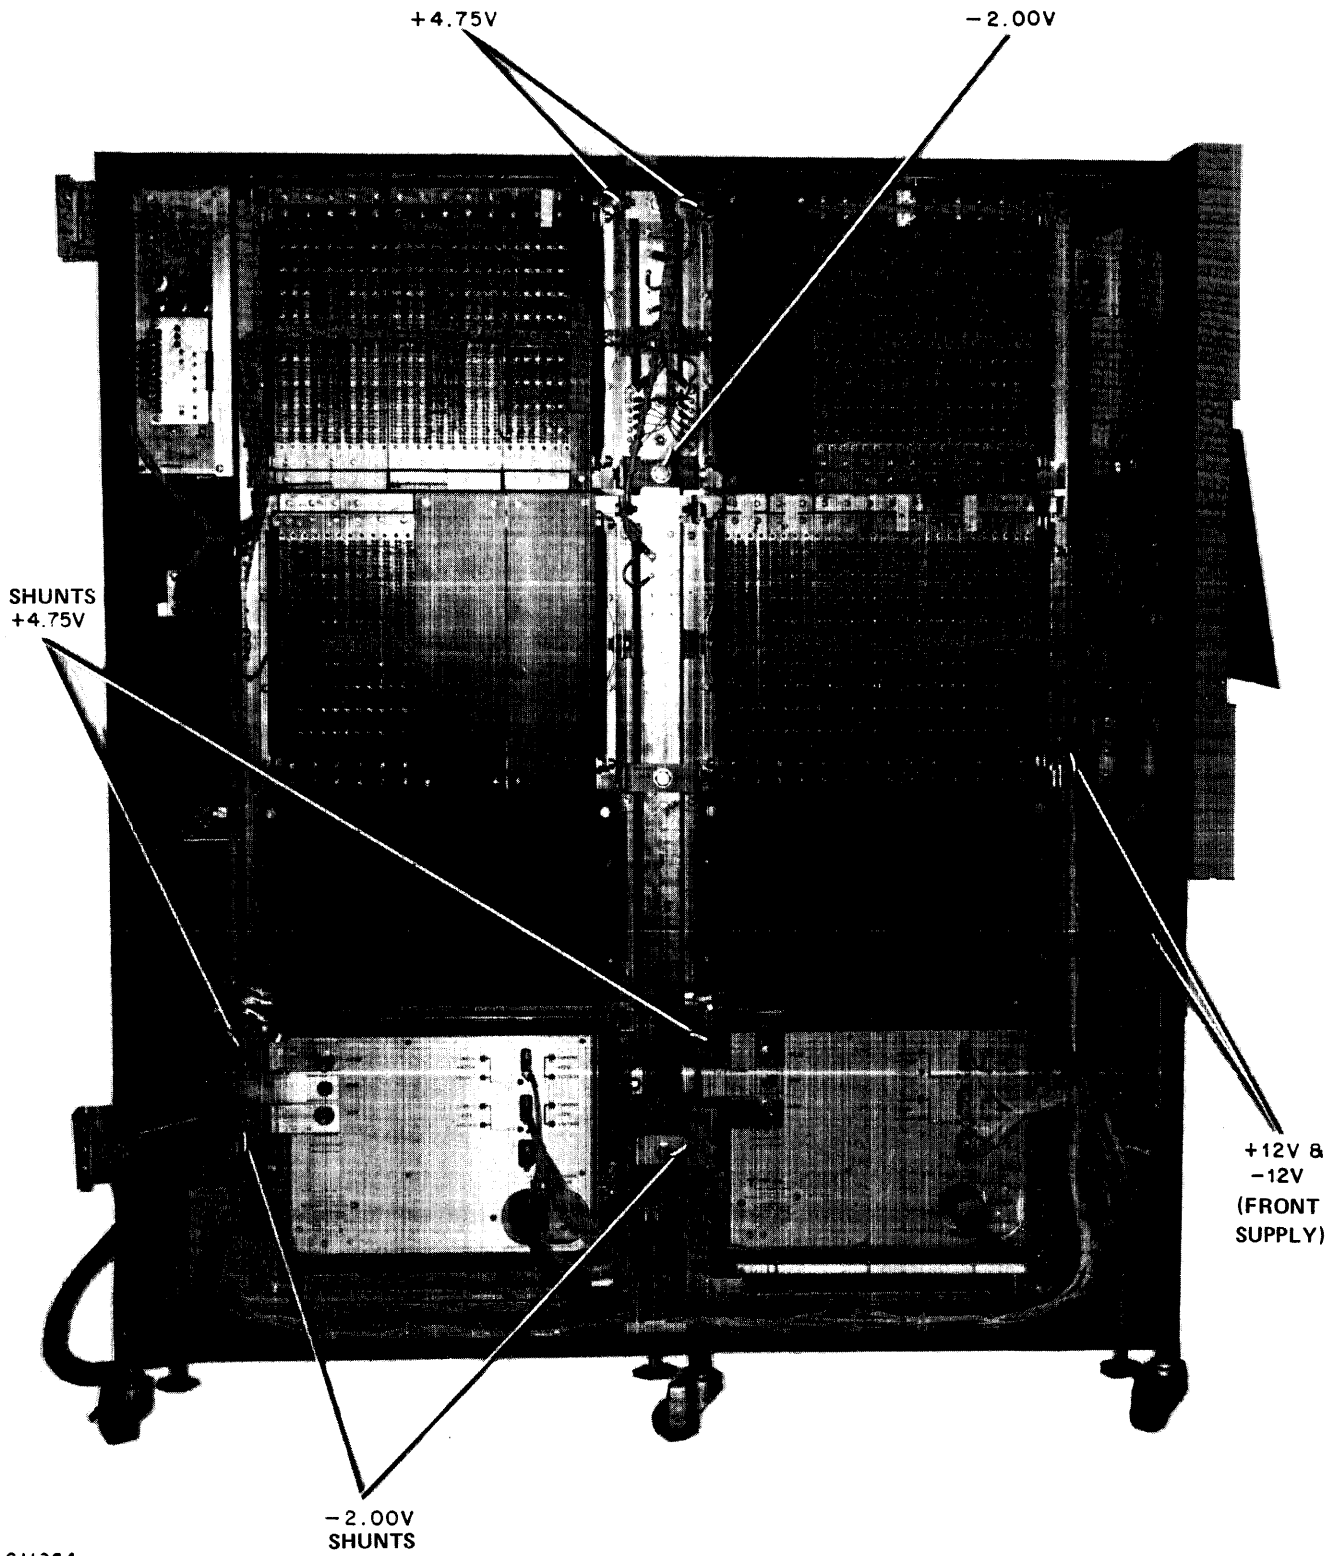

Figure 4-5. B 1720-Series Current Shunt and Voltage Sense Locations
- b. Remove all four (4) shunt shorting bars. These are located on the bus bars immediately adjacent to the high-current terminals. Refer to figure 4-5.
- a. Connect the DVM from the + 4.75 V sense point to the GND sense point on the backplane. Refer to figure 4-5.
- a. Connect the DVM from the GND sense point to the bottom of + 12 volt bus nearest the console. Refer to figure 4-5.